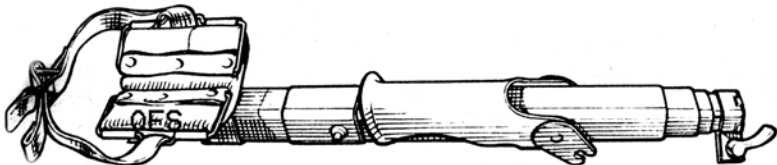

FIG. 4 TELESCOPIC POLE COLLAPSED
2.2 THE TELESCOPIC POLE (Fig. 4)